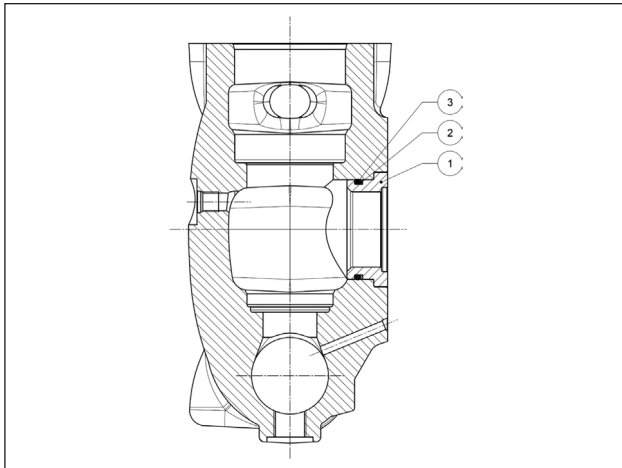
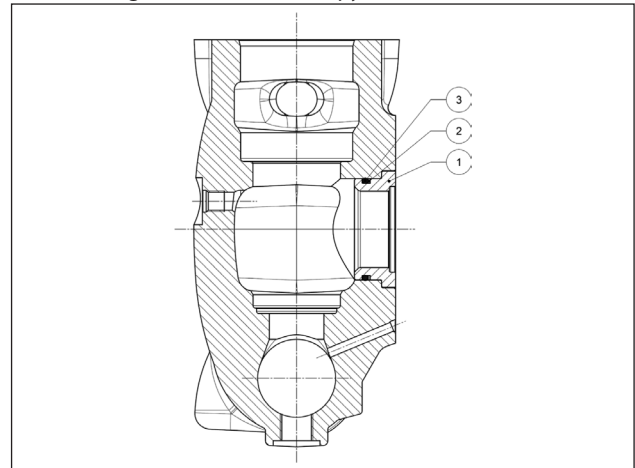

Fig. 167
Fig. 168
The machined head must be assembled by driving in the bushes (pos. ①) together with the anti-extrusion rings (pos. ②) and O-rings (pos. ③) as shown in Fig. 167 for LK36-40-45 and in Fig. 168 for LK50-55-60: